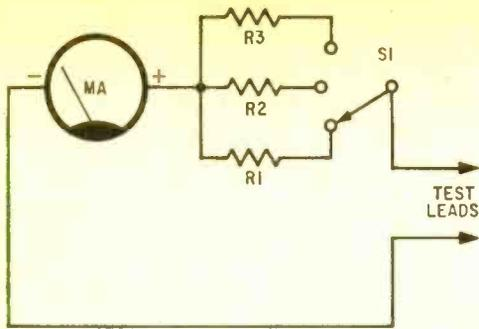

Fig. 4. DC voltmeter with three ranges.
for the internal resistance of the meter, full-scale meter indication will be obtained when the measured voltage is 10 volts. Hence, we now have a 0-10 DC voltmeter. If we change the resistor to 99,900 ohms, we have a 0-100 DC voltmeter, and so on. By providing a switch (SI) for selecting various series resistors, as shown in Figure 4, we have a multi-range voltmeter.